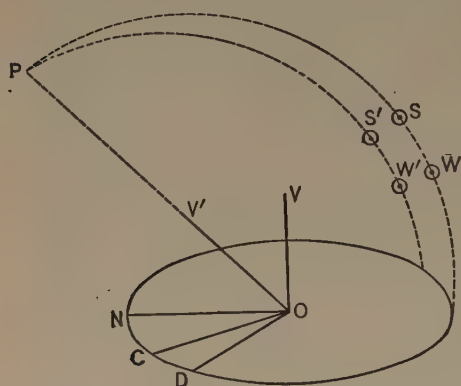

FIG. 337. — The style of the sundial ( $V'O$ ) must point toward the north star.
**The sundial.** Sundials are now made for their artistic value rather than their usefulness. A study of Fig. 337 will show you why the *style* of the sundial must be inclined a number of degrees equal to the